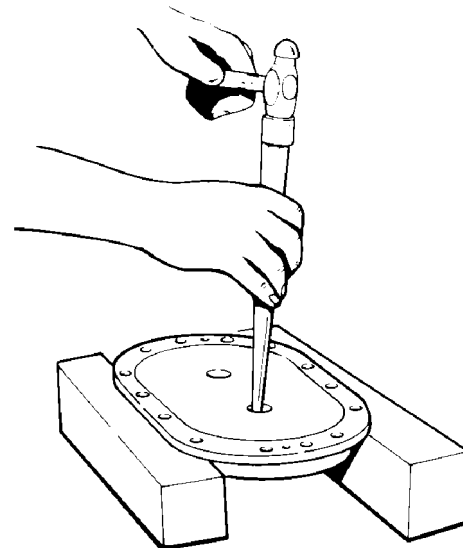

FIGURE 16
12. Remove the two drive end bearings (15) from the drive headplate (24) using a ball peen hammer and punch (see FIGURE 16, page 16).
13. The grease seals can now be driven out of the drive headplate with hammer and punch (see FIGURE 16, page 16). Discard the seals as they will not be reused. Replace grease seals each time the headplate is removed.